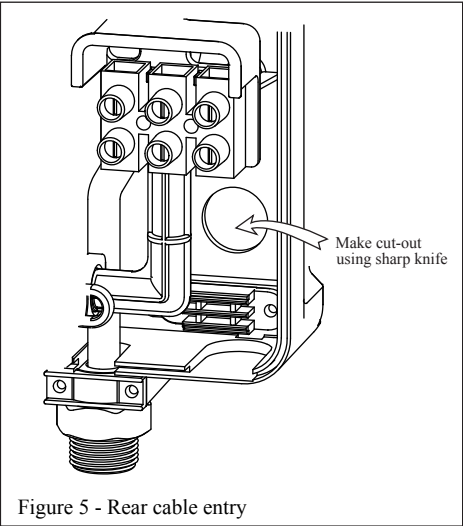

Figure 5 - Rear cable entry
- 4.4 Cable entry can be from the rear (see Figure 5) or from the bottom. When opting for bottom entry make cut-out to suit cable before fitting back plate to the wall.